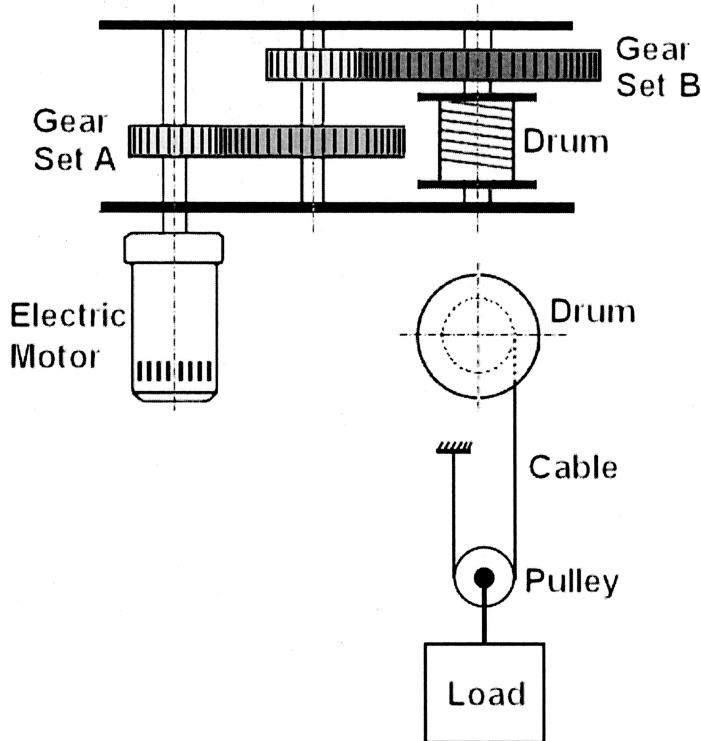

Figure 3b
- (b) A design of a hoist is shown in Figure 3b. It is driven by an electric motor coupled to a drum through a 2-stage gear train (Gear set A and Gear Set B). The load is connected to a pulley before it is connected to the drum creating a further 2:1 mechanical advantage for the hoist. The electric motor has a speed of 950 rpm and provides a torque of 15Nm. The drum that the cable coils around has a diameter of 250mm.